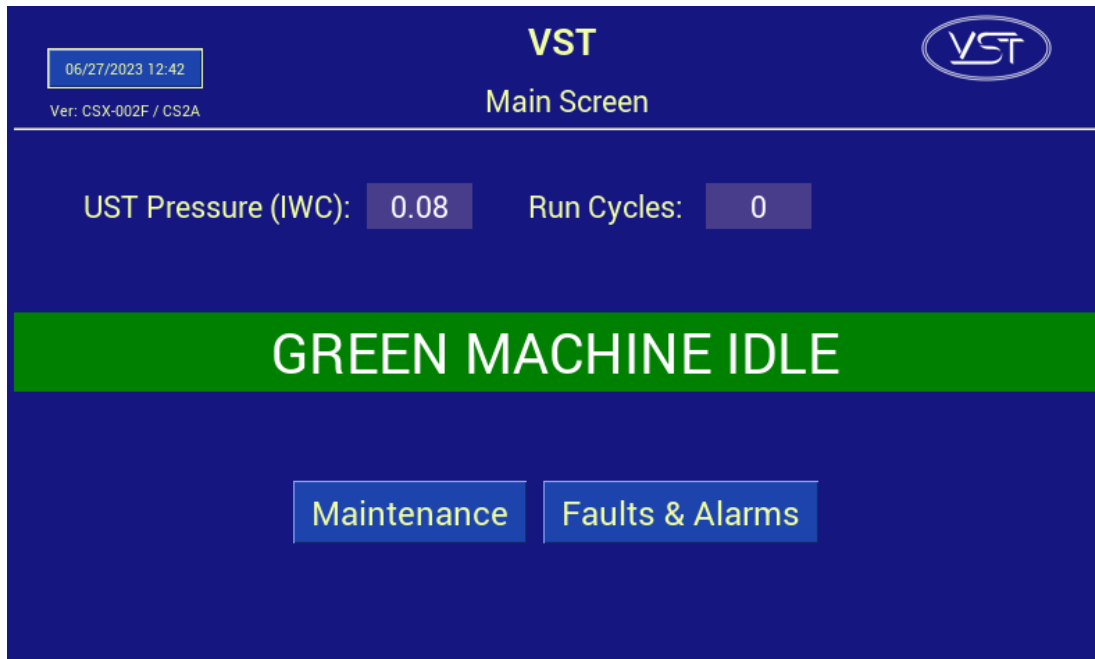

Figure 7-1: VST PLC Main Screen w/no Alarms
See Figure 7-1.
4. At the VST Control Panel PLC Main Screen, make sure the Pressure reading is 0.0 +/- 0.10 IWC. **See Figure 7-1.**